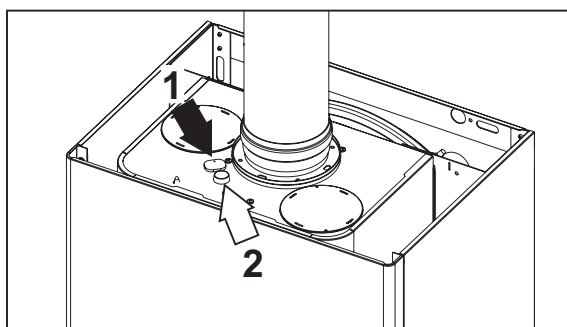

fig. 28 - Fume analysis DIVAtop MICRO F 24
Two test points are provided at the top of the boiler, one for fumes (ref. 1 - fig. 28) and the other for air (ref. 2 - fig. 28). To take samples: